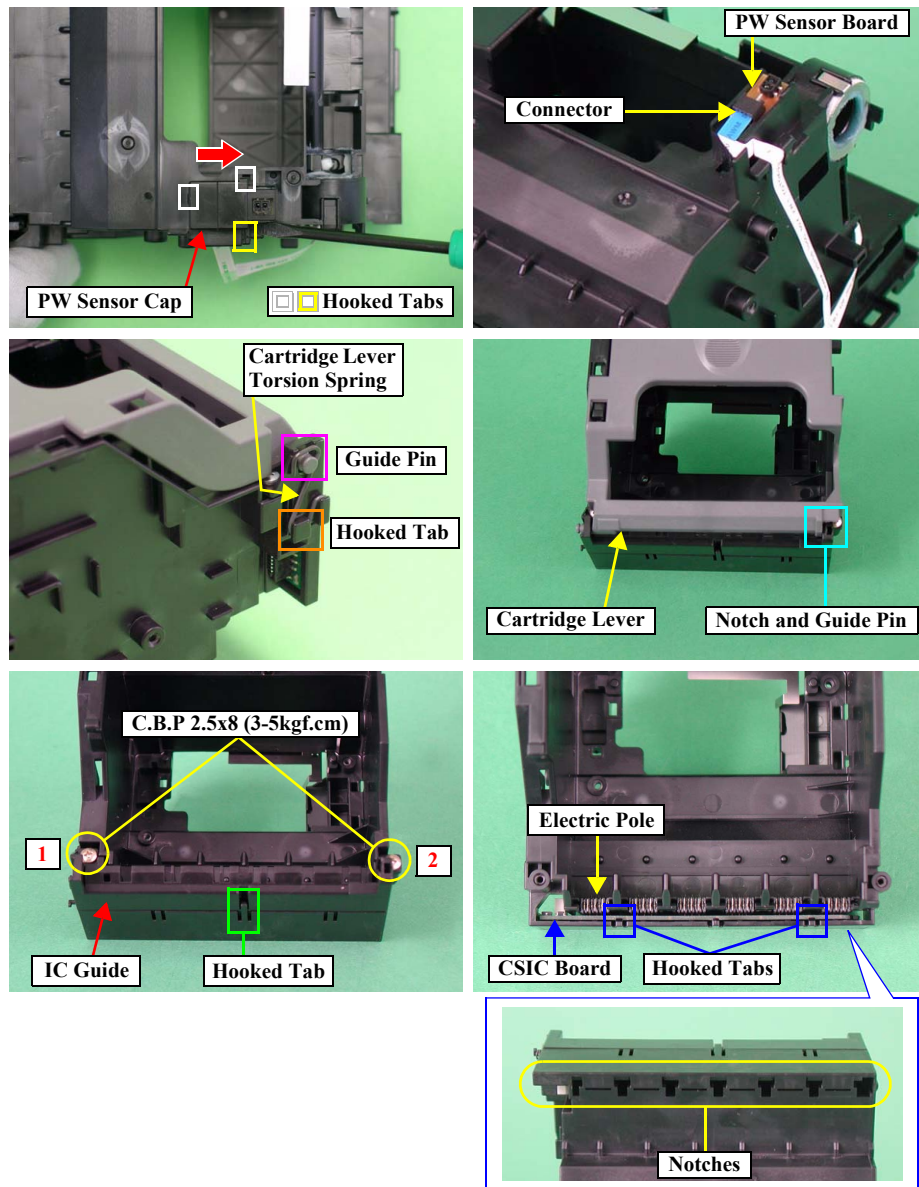

Figure 2-72. Removing the Carriage Unit (4)
1. While pressing the PW Sensor Cap in the direction of the arrow shown in Figure 2-72, insert a flat-blade screwdriver between the tab (□) of the PW Sensor Cap and the Carriage to release the three tabs (□□), and remove the PW Sensor Cap.
- Tighten the screws to secure the IC Guide in the order shown in Figure 2-72.